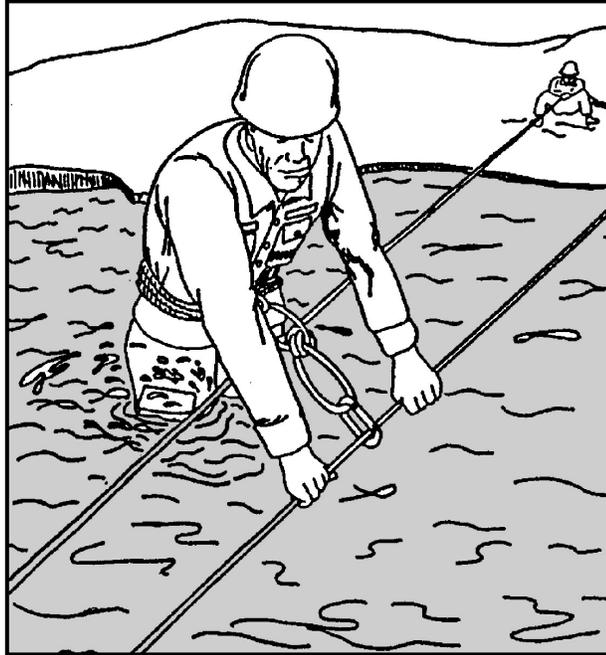
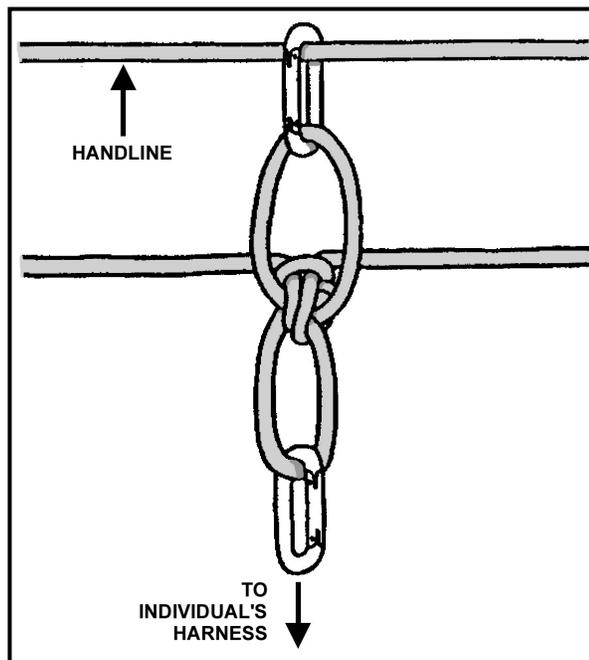

Figure 9-4. Stream crossing using a handline.
Figure 9-5. Belay rope for crossing using a handline.
b. **Installation of a Handline.** If it is possible to use a rope high enough above the water to enable soldiers to perform a dry crossing, then a rope bridge should be installed as such. If this is impossible, and the rope must be installed to assist in a wet crossing, then it should be installed as a handline (Figure 9-4).
(1) The far anchor should be downstream from the near anchor so that the rope will run at an angle downstream from the near anchor, approximately thirty to forty-five degrees, rather than straight across the stream. Here again, it is easier to move with the current as opposed to directly across or against it.
(2) The rope may be anchored immediately on the far bank, pulled tight, and anchored on the near bank, or it may be installed with a transport tightening system if a tighter rope is required.
(3) Crossing will always be performed on the downstream side of the handline, shuffling the feet with the downstream foot in the lead.
(4) A second climbing rope is used as a belay (Figure 9-5). One end of the belay rope will be on the near bank and the other end on the far bank. It should be sent across with the strong-swimmer. An appropriate knot is tied into the middle of the belay rope to form two fixed loops with each loop being approximately 6 inches long. One loop is connected to the handline with carabiner(s) and the individual crossing connects one loop to himself. The loops are short enough so the individual is always within arms reach of the handline should he slip and let go. The individuals are belayed from both the near and far banks. If a mishap should occur the individual can be retrieved from either shore, whichever appears easiest. The belay on the opposite shore can be released allowing the individual to pendulum to the bank. It is important that the belay rope NOT be anchored or tied to the belayer so that it may be quickly released if necessary.